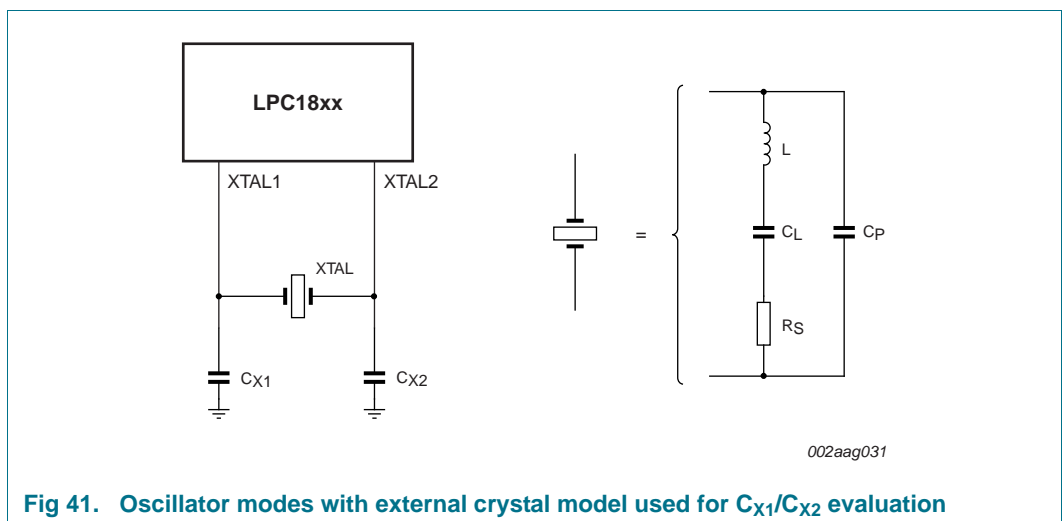

Fig 41. Oscillator modes with external crystal model used for C_{X1}/C_{X2} evaluation
- External components and models used in oscillation mode are shown in Figure 41, and in Table 39 and Table 40. Since the feedback resistance is integrated on chip, only a crystal and the capacitances C_{X1} and C_{X2} need to be connected externally in case of fundamental mode oscillation (L, CL and RS represent the fundamental frequency). Capacitance C_P in Figure 41 represents the parallel package capacitance and must not be larger than 7 pF. Parameters FC, CL, RS and CP are supplied by the crystal manufacturer.